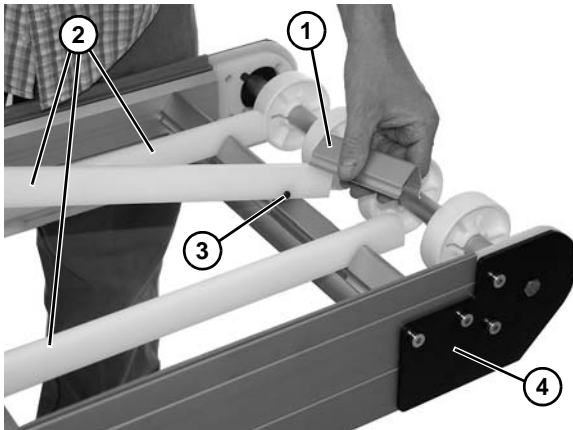

Figure 35
2. Remove inner spacer (Figure 35, item 1) from top of frame assembly.
The upper wearstrips (Figure 35, item 2) have a screw (Figure 35, item 3) on end of wearstrip that is retained by the inner spacers (Figure 35, item 1).
3. Remove upper wear strips (Figure 35, item 2).